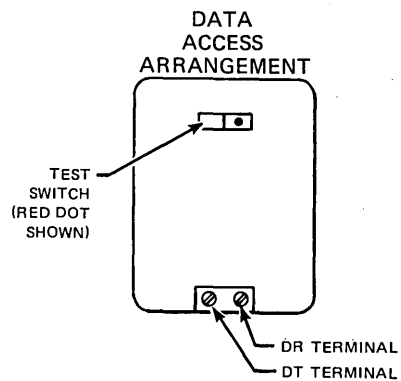

Figure D-6. Data Access Arrangement
- b. For DAA connection (figure D-6), refer to 40003-107 Hardware Maintenance Manual for information on installation.